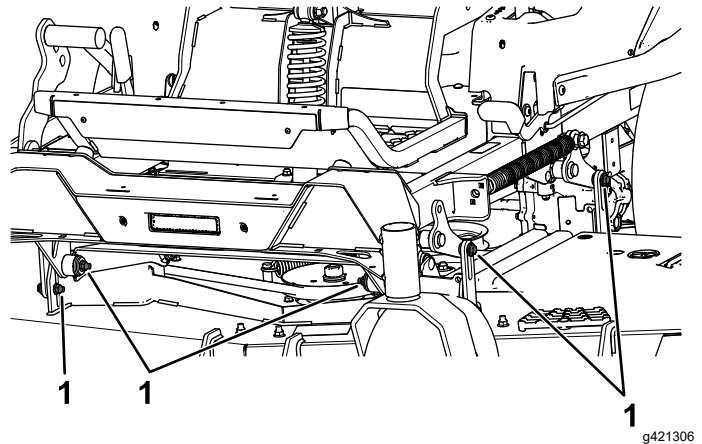

Figure 91
7. Remove and retain the bolts and nuts on both sides of the machine (Figure 91).